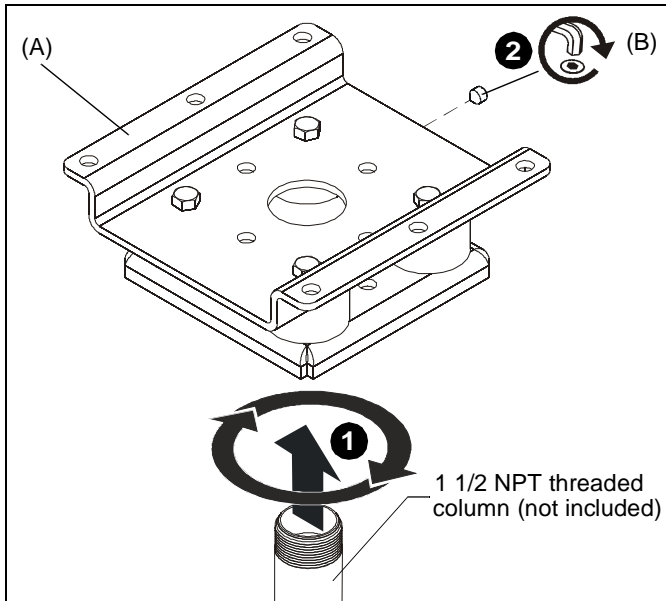

Figure 3
1. Install 1-1/2" NPT or NPSM following ANSI/ASME B1.20.1 (Schedule 40, 0.154" minimum thickness aluminum - ASTM B221) threaded extension column (not included) into threaded collar until tight, with a minimum of four threads engaged. (See Figure 3)
2. Install 5/16-18 x 3/8" set screw (B) into hole on ceiling plate (A) to secure pipe to mount. (See Figure 3)